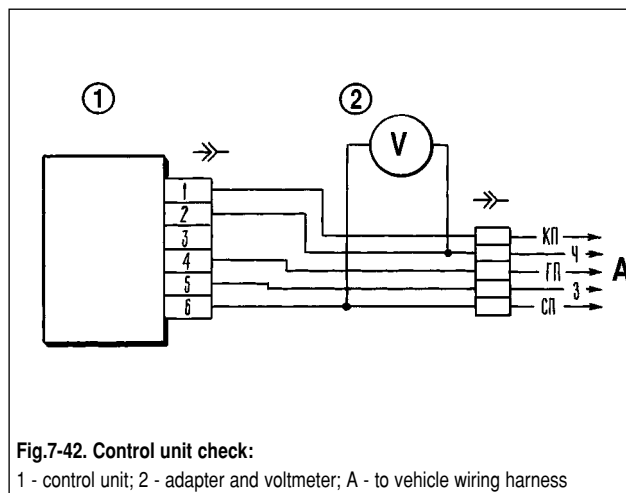

Fig.7-42. Control unit check:
- connect the voltmeter to the control unit using special connector 2 (Fig.7-42);